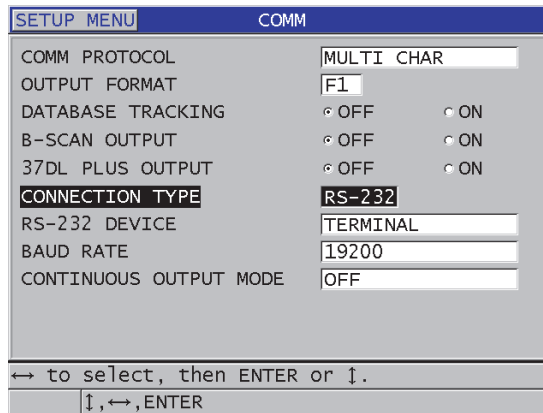

Figure 14-3 Viewing communication parameters
7. In the **COMM** screen (see Figure 14-3 on page 265):